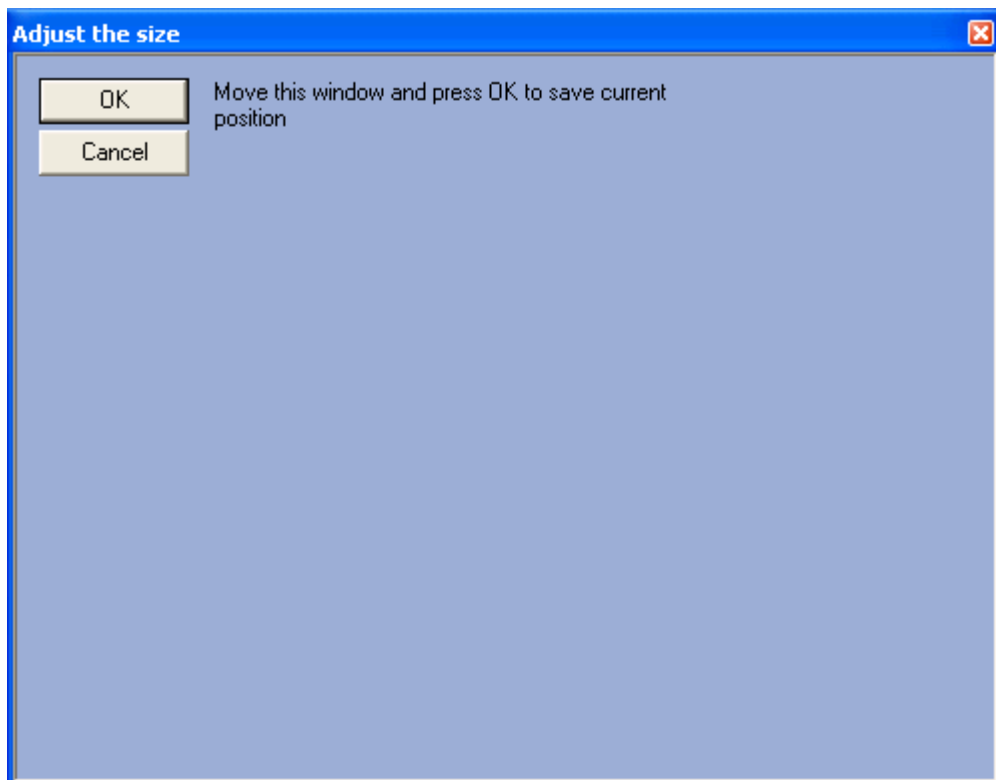

Fig. 7.9—3 Visual method of setting up the coordinates
5. In case, if the Vehicle tracer component has to be moved, set the «Allow moving» checkbox (Fig. 7.9—2, 5).